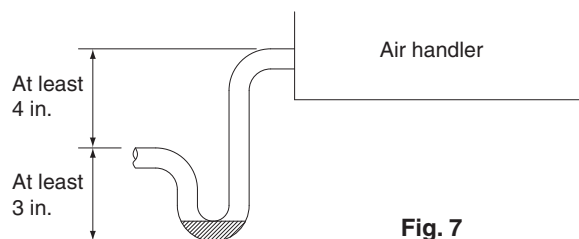

Fig. 7
- Knock out the plastic seal with a screwdriver and a hammer. (Refer to Fig. 7)